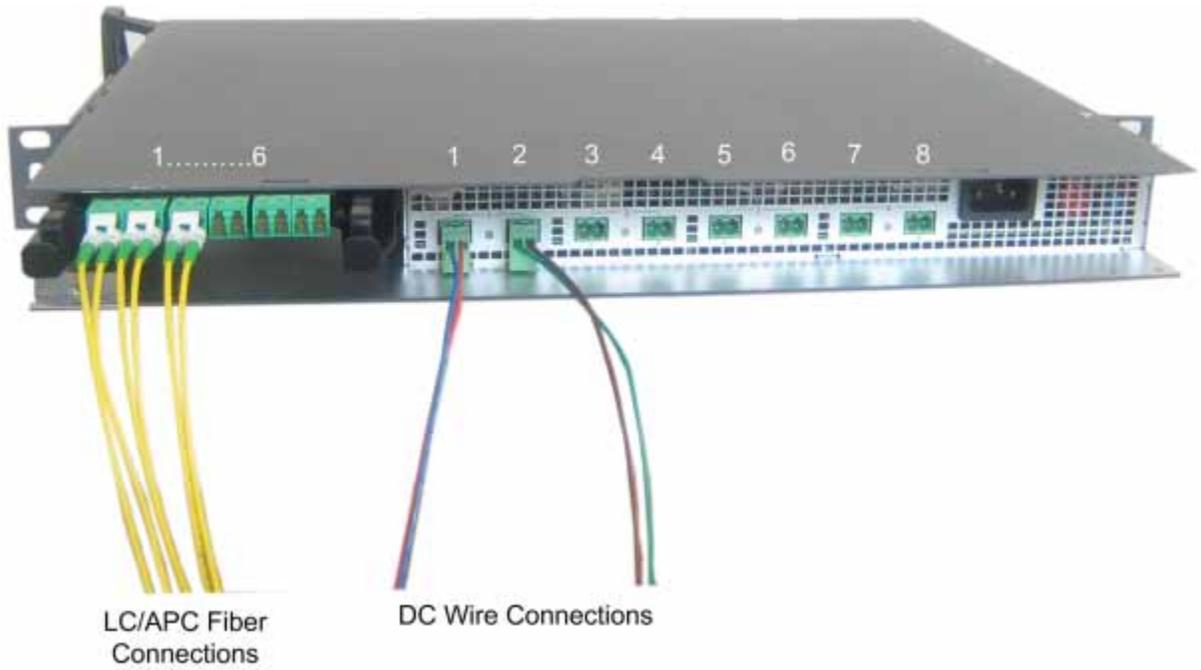

Figure 5-48. ICU Fiber and DC Connectors
1. Connect one side of the composite cable DC wiring to any of the ICU DC power connectors (1-8) on the front panel. See Figure 5-48.
2. Extract the Edge module (see Steps 1-4 of 5.2.1.6), remove the tip covers from the composite cable fiber pairs and connect to the Edge module LC/APC fiber connectors. See Figure 5-48.